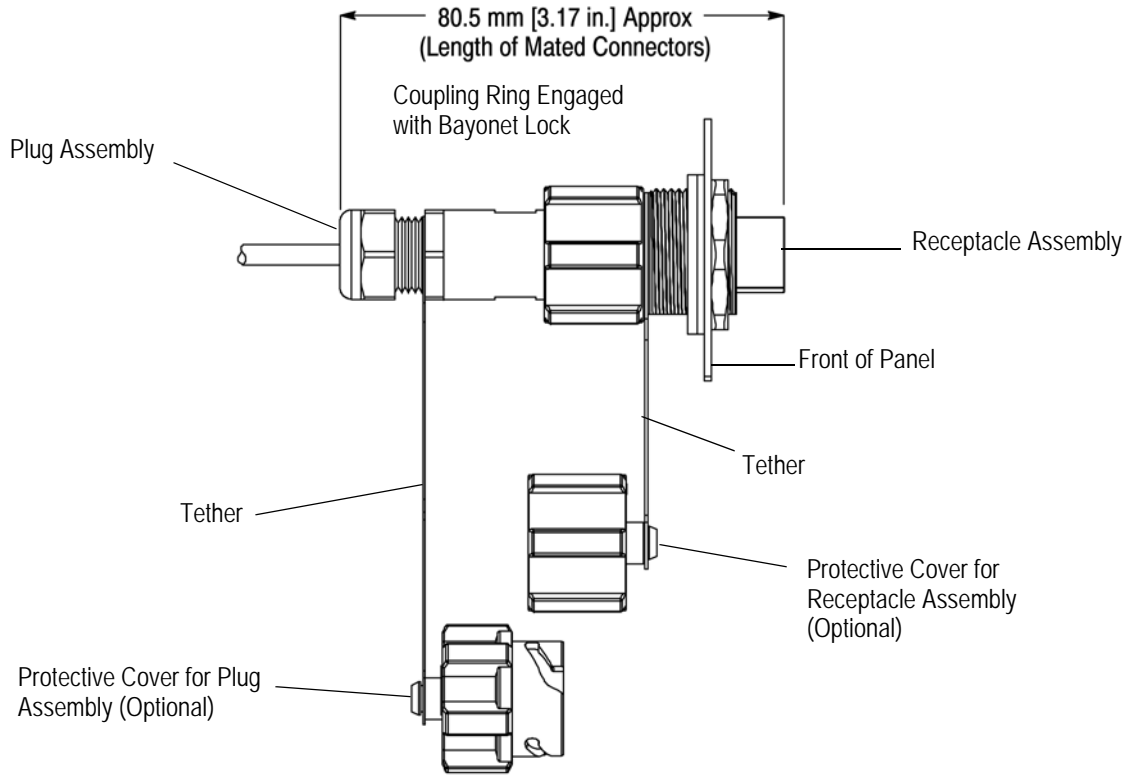

Figure 13
Properly mated connectors must have the following requirements (see Figure 13):
- the length of the mated connectors must be within the dimension given in Figure 13